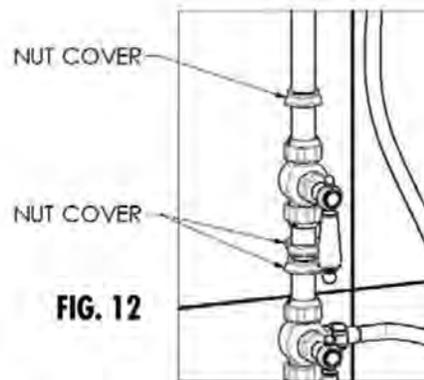

FIG. 12
35. Position the nut covers so that the nut is more clearly visible (fig. 12). Turn the shower head and hand shower supply shutoff to the off position. Turn the thermostatic control knob clockwise to the cold position.